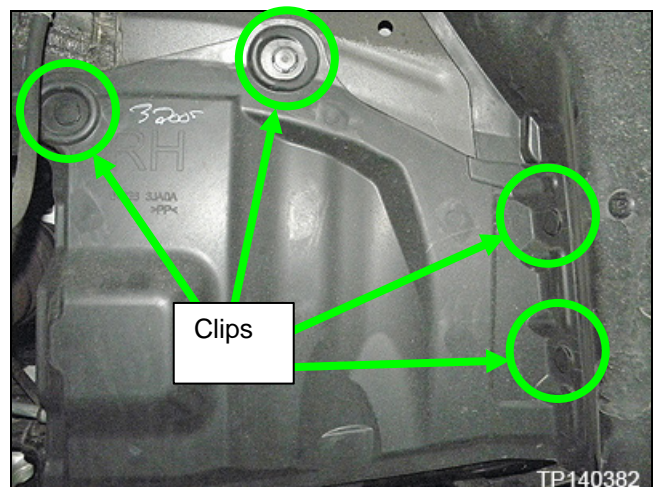

Figure 14
21. Remove both of the Front Fender Protector Side Covers (Figure 14).